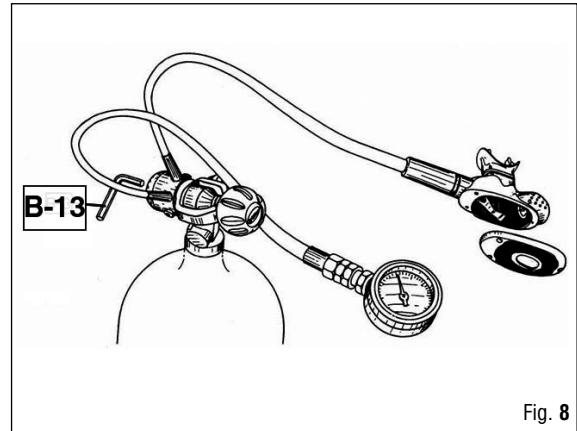

Fig. 8
- III. Position the unit on the valves (of the test bench or a tank) (Fig. 8).